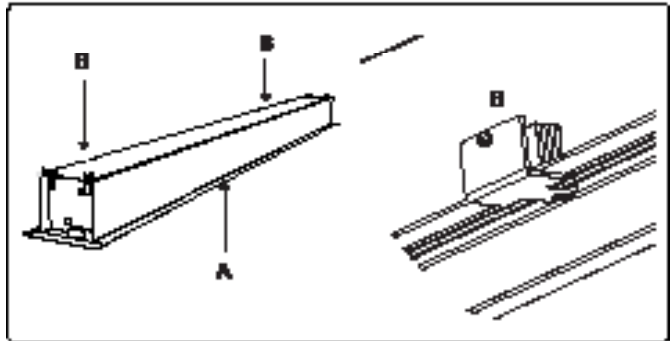

Figure 1
- Remove protection tape (A in fig. 1; back side).
- If applicable, remove transport safety brackets (B in fig. 1, audience side).